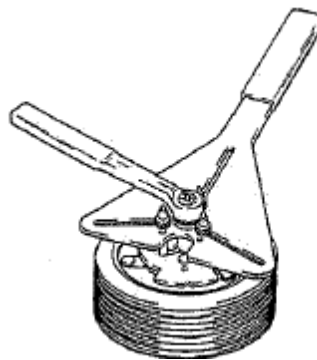

Figure 12-02
- (1) If armature dust cover is present, remove the 3 or 6 bolts holding it in place and remove cover. If auxiliary sheet metal pulley is present, remove the screws holding it in place. Then remove pulley
- (2) Insert pins of armature plate spanner into threaded holes of armature assembly.
- (3) Hold armature assembly stationary while removing retaining nut with 3/4 in, 19 mm or 14 mm socket wrench as appropriate. (Ref. Figure 12-02)